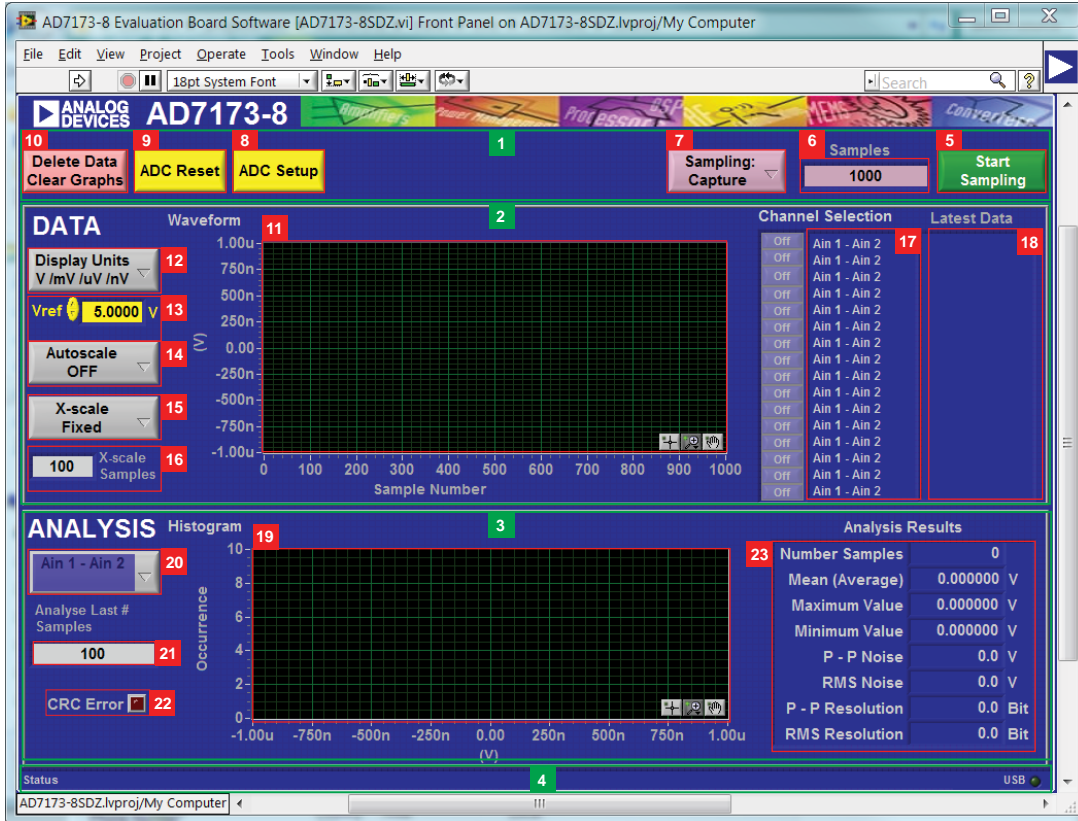

Figure 7. Main Window of the AD7173-8 Evaluation Board Software
1. From the **Start** menu, click **Programs, Analog Devices**, then EVAL-AD7173-8SDZ. The main window of the software then displays (see Figure 7).
The main window of the software displays the significant control buttons and analysis indicators of the AD7173-8 evaluation board software (see Figure 7). This window is divided into four sections. The green numbers shown in Figure 7 (1 through 4) correspond to the following components of the main window:
Sampling (set to **Capture** in Figure 7) enacts the sampling mode used by the software. This is unrelated to the ADC mode. You can capture a defined sample set, or continuously gather batches of samples. In both cases, the number of samples set in the **Samples** (6) numeric input dictates the number of samples.
To exit the software, click the close button at the top, right corner of the main window (see Figure 7).